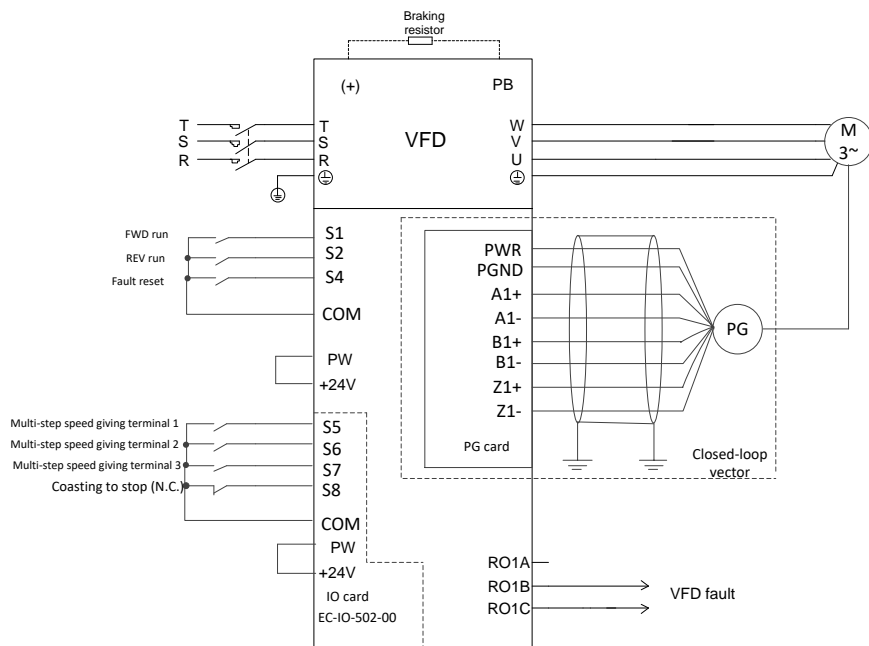

Figure 5-13 Wiring for tower crane slewing
**Figure 5-13 Wiring for tower crane slewing, most VFD parameters need no adjustment. If the onsite function terminals are inconsistent with the terminals shown in the figure, adjust the input and output terminal functions according to the actual wiring after selecting this application macro.**